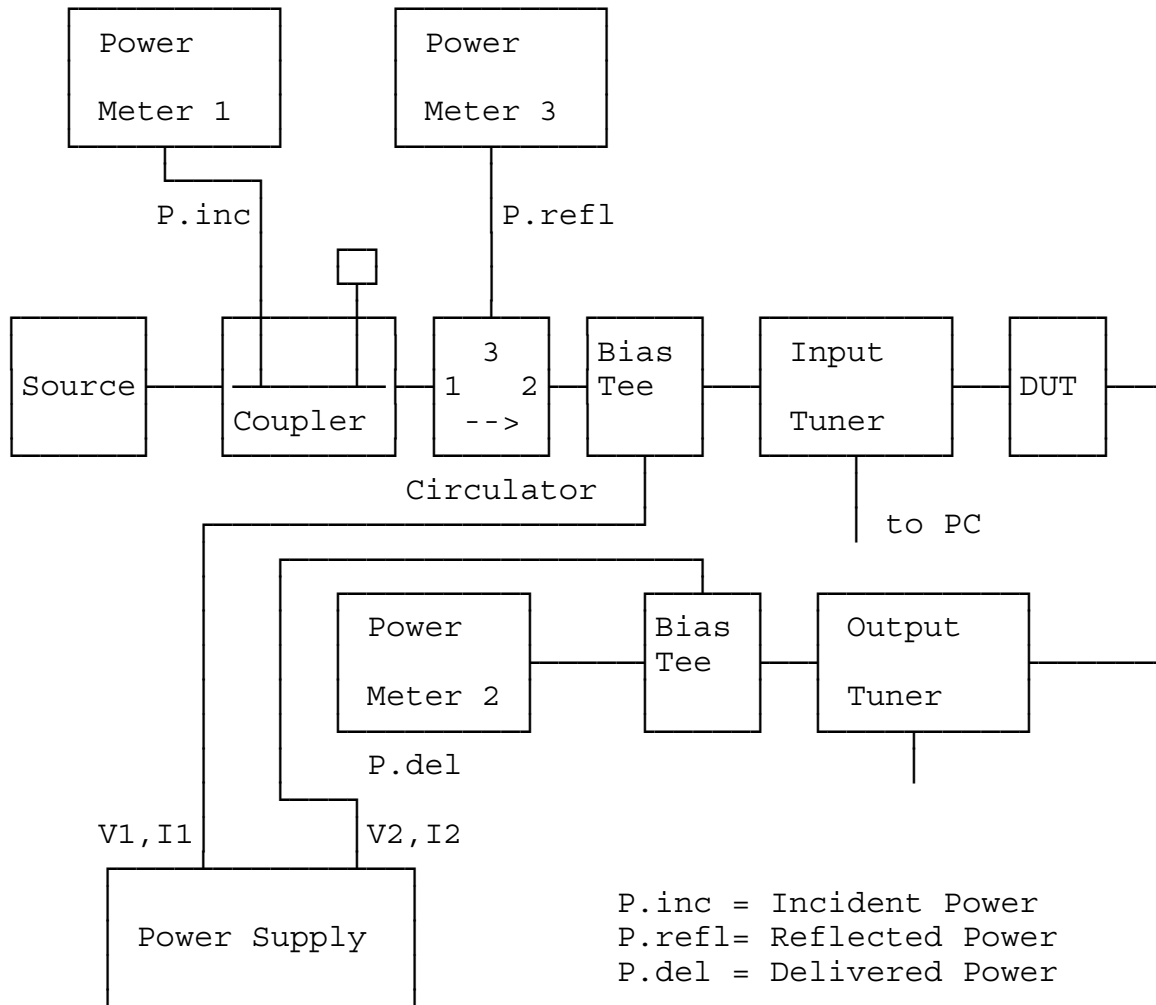

Figure 2: Load Pull setup for measuring Gain, Power and Efficiency
2. Reflected power at the input of the setup **Ps.refl** (measured at the third port of a circulator, figure 2).